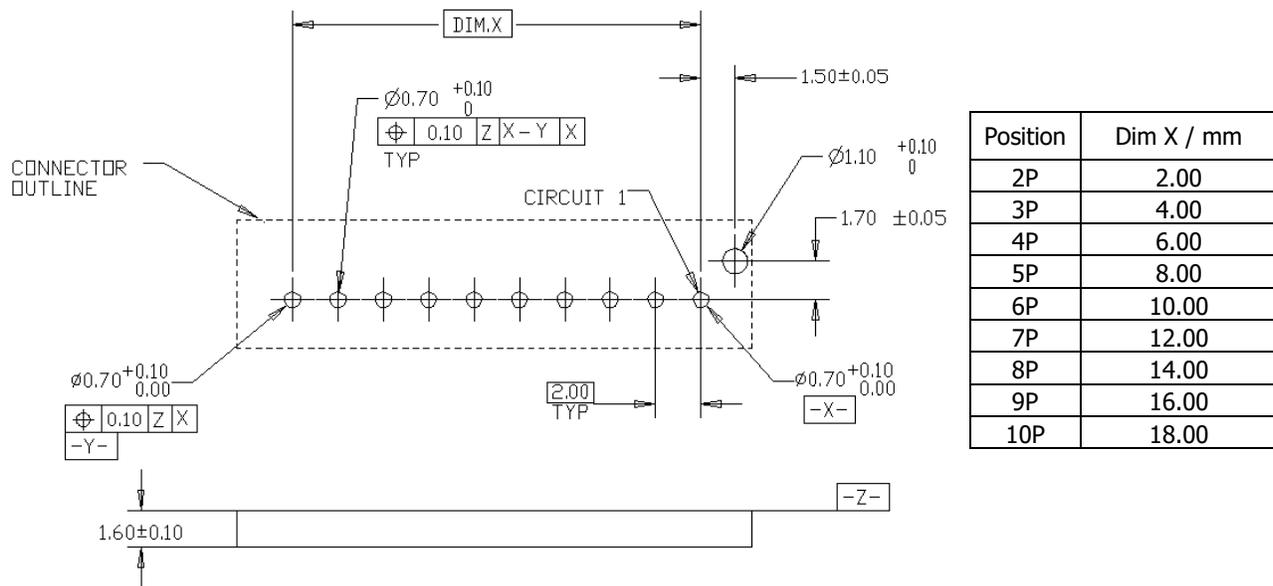

Figure 9
- a. The mounting and contact holes in the PC board must be precisely located to ensure proper placement and optimum performance of the header assembly. Design the PC board using the dimensions provided in Figure 9. The layout shows the top (component) side of the board.